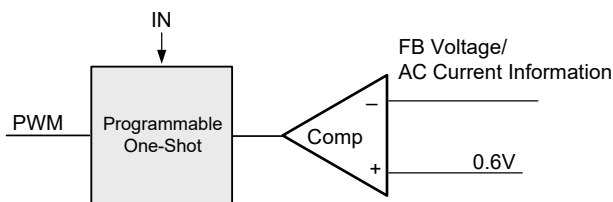

Figure 3. Simplified Control Schematic of AOZ2263NQi-11
The simplified control schematic is shown in Figure. 3. The high-side switch on-time is determined solely by a one-shot whose pulse width can be programmed by one external resistor and is inversely proportional to input voltage (IN). The one-shot is triggered when the internal 0.6V is higher than the combined information of FB voltage and the AC current information of inductor, which is processed and obtained through the sensed lower-side MOSFET current once it turns-on. The added AC current information can help the stability of constant-on time control even with pure ceramic output capacitors, which have very low ESR. The AC current information has no DC offset, which does not cause offset with output load change, which is fundamentally different from other  $V^2$  constant-on time control schemes.